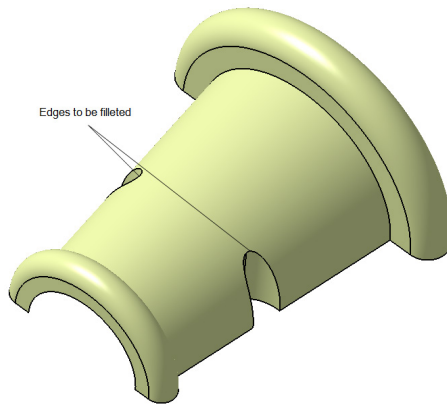

Figure 17-91 Edges to be filleted
2. Select the edges to fillet, as shown in Figure 17-91.